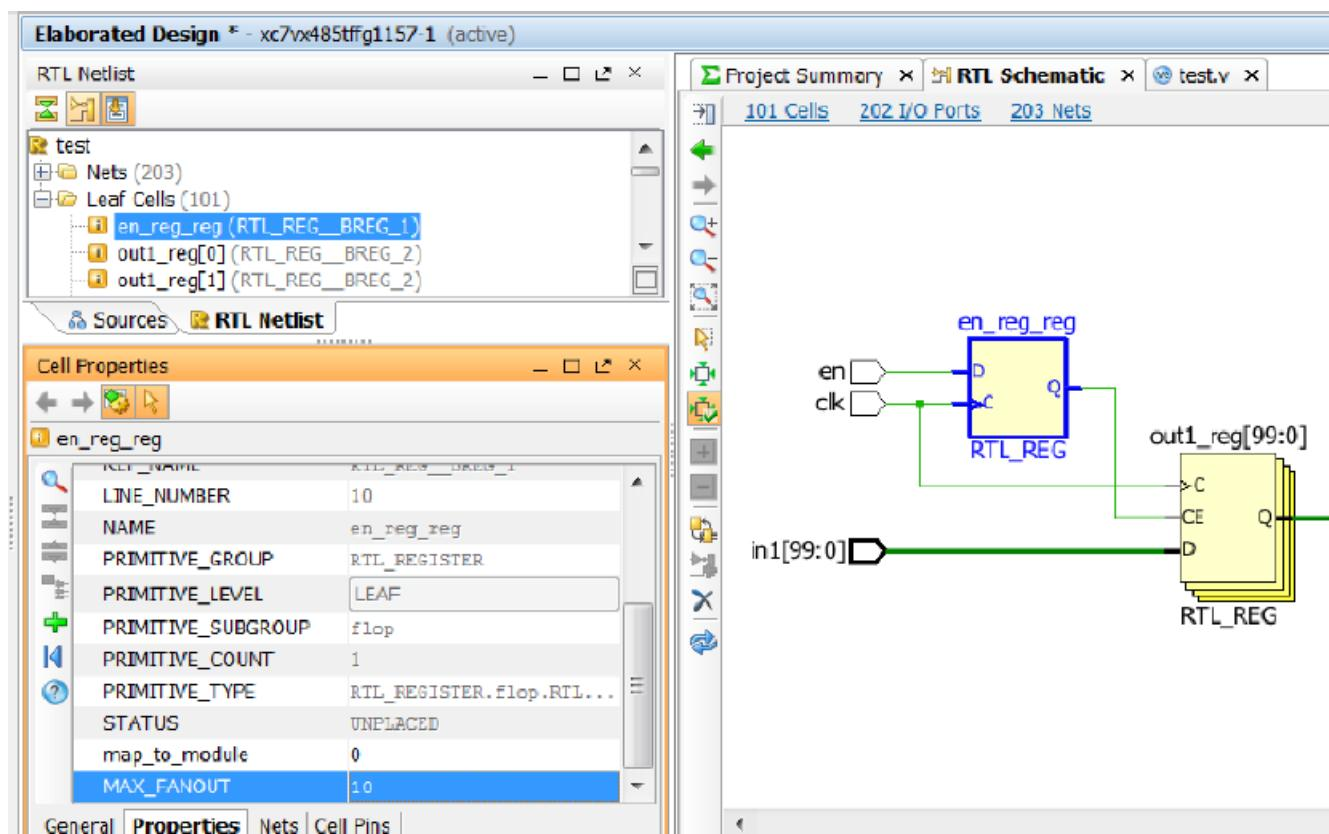

Figure 2-1: Adding an XDC Property from the Elaborated Design View
1. Open the elaborated design, shown in Figure 2-1, and select the item on which to place an attribute, using either of the following methods: